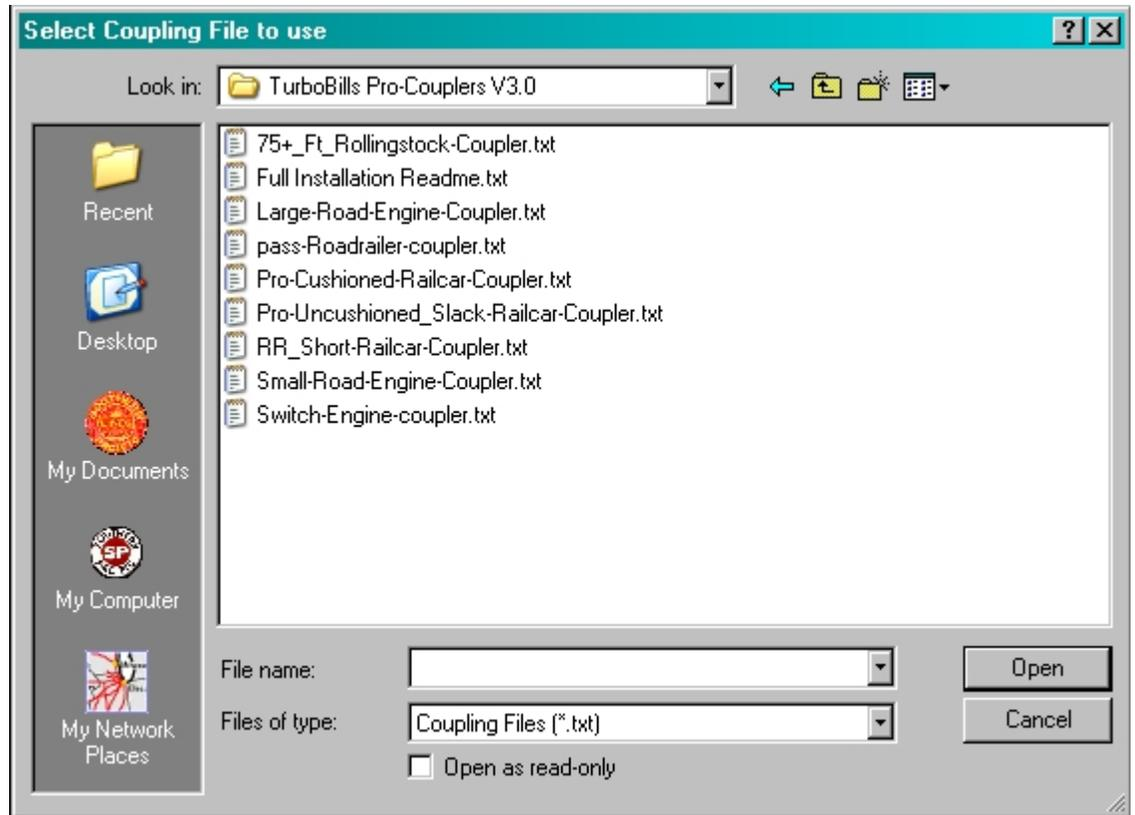

Figure 8
9. We will now double left-click on the "*Large-Road-Engine-Coupler.txt*" file as shown in Fig. 8. **Route_Riter** will now upgrade the items you have highlighted in the big window of the eng/wag file editor. **Route_Riter** will also automatically recalibrate your **.sd** file to dimensions that work best with the coupler chosen. It will also create a **.BAK** file so you can restore the original **.sd** file if you do not like the one **Route_Riter** created. The values will be recalculated to the nearest 1/100 value as MSTs does not like long decimal parameter values. The eng/wag editor will briefly display each item using the **shapeviewer** for a few seconds as it upgrades that item. This way you can go back and choose a different coupler if you not satisfied with the one you have chosen for that item after the process is completed for all items hi-lighted. When the process is completed you should see the window in Figure 9, below.